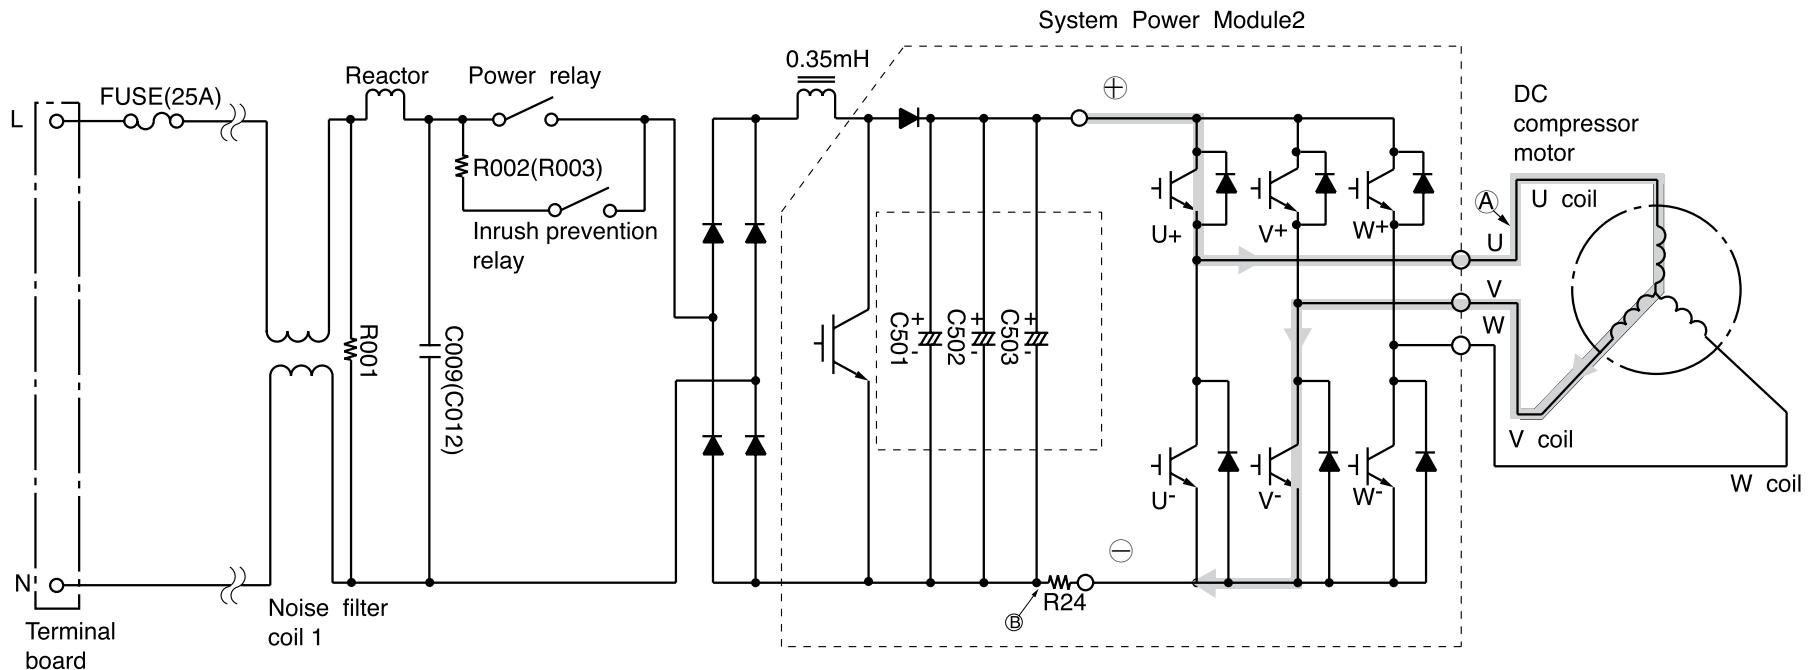
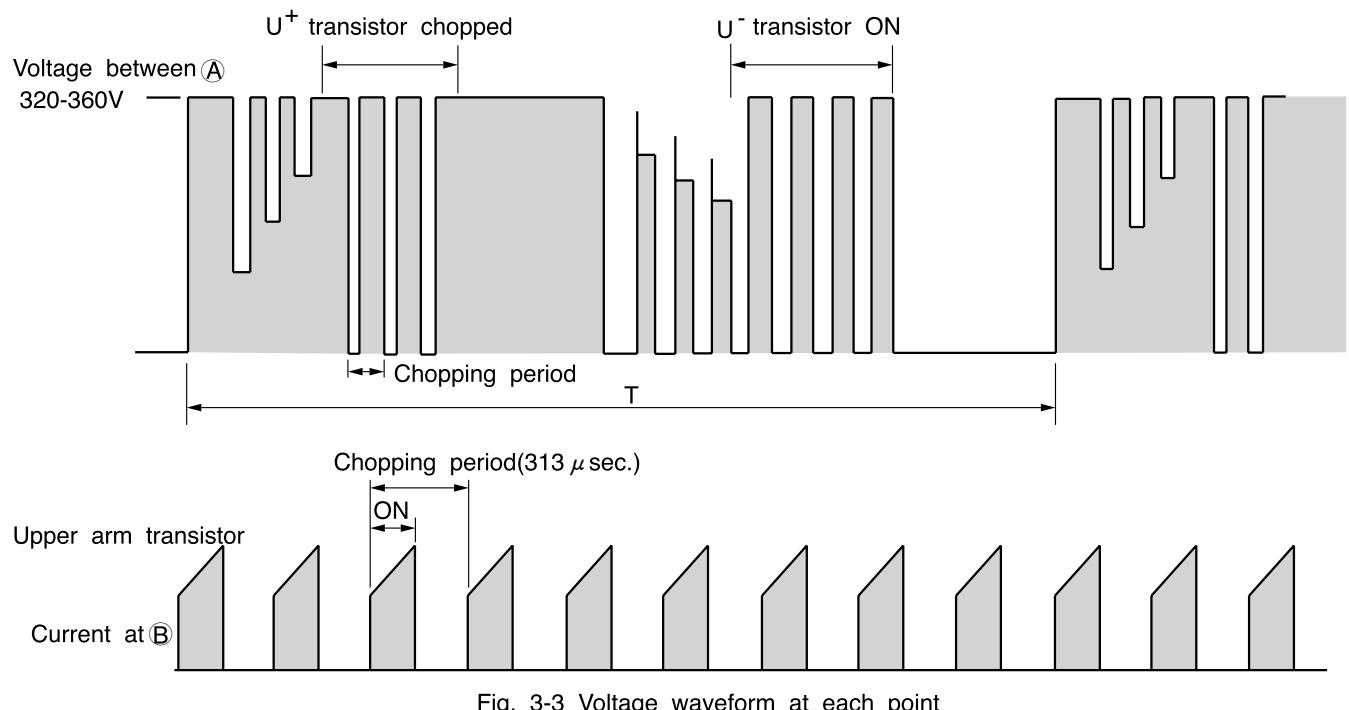

Fig. 3-1 Power module circuit (U^+ is ON, V^- is ON)
Fig. 3-3 Voltage waveform at each point
- Fig. 3-1 shows the power module and its peripheral circuit. The three transistors on the positive \oplus side are called the upper arm, and the three transistors on the negative \ominus side, the lower arm.
- RAM-70QH4 and RAM-80QH4 have two power module circuits as shown in Fig. 3-1 because of providing for two cycles and two compressors style.
[At point E: U^+ is ON, V^- is ON (circuit in Fig. 3-1)
- Fig. 3-3 shows voltage waveform at each point shown in Fig. 3-1 and 3-4. First half of upper arm is chopper, second half is ON, and first half of lower arm is chopper, second half is ON.
- When power is supplied $U^+ \rightarrow U^-$, because of that U^+ is chopped, current flows as shown below; ②
- When U^+ transistor is ON: U^+ transistor → U coil → V coil → V^- transistor → DC current detection resistor → Point ② (Fig. 3-1)
- Since current flows at point ④ only when U^+ transistor is ON, the current waveform at point ④ becomes intermittent waveform as shown in Fig. 3-3. Since current at point ④ is approximately proportional to the input current of the air conditioner, input current is controlled by using DC current (Id) detection resistor.